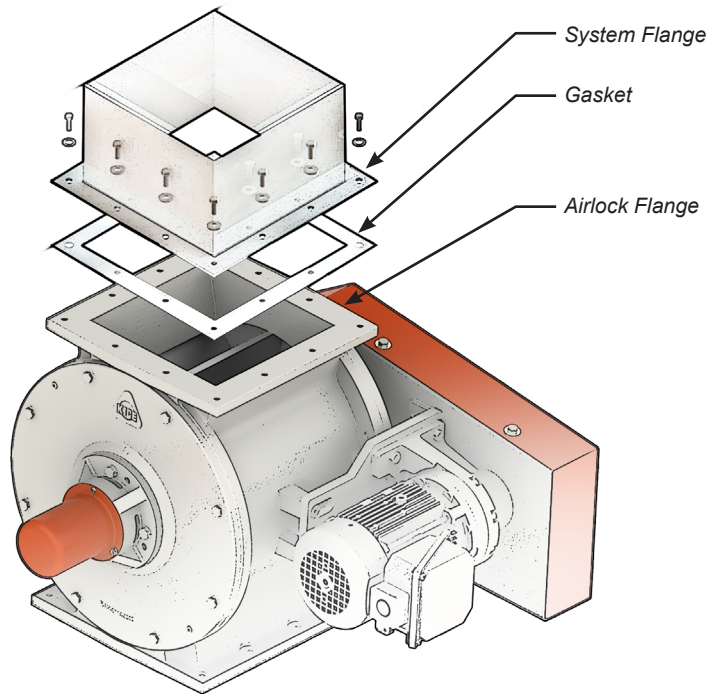

FIGURE 5
- a. If the airlock will be floor mounted, secure to the floor using approved anchors and then attach the airlock mounting flange to the system flange using fasteners and supplied gasket(s) (Figure 5).
- b. If the airlock connects between two pieces of equipment, and is not floor mounted, attach the airlock flanges to system flanges using fasteners and supplied gaskets as shown (Figure 5). The airlock should be attached to the sturdiest equipment first.